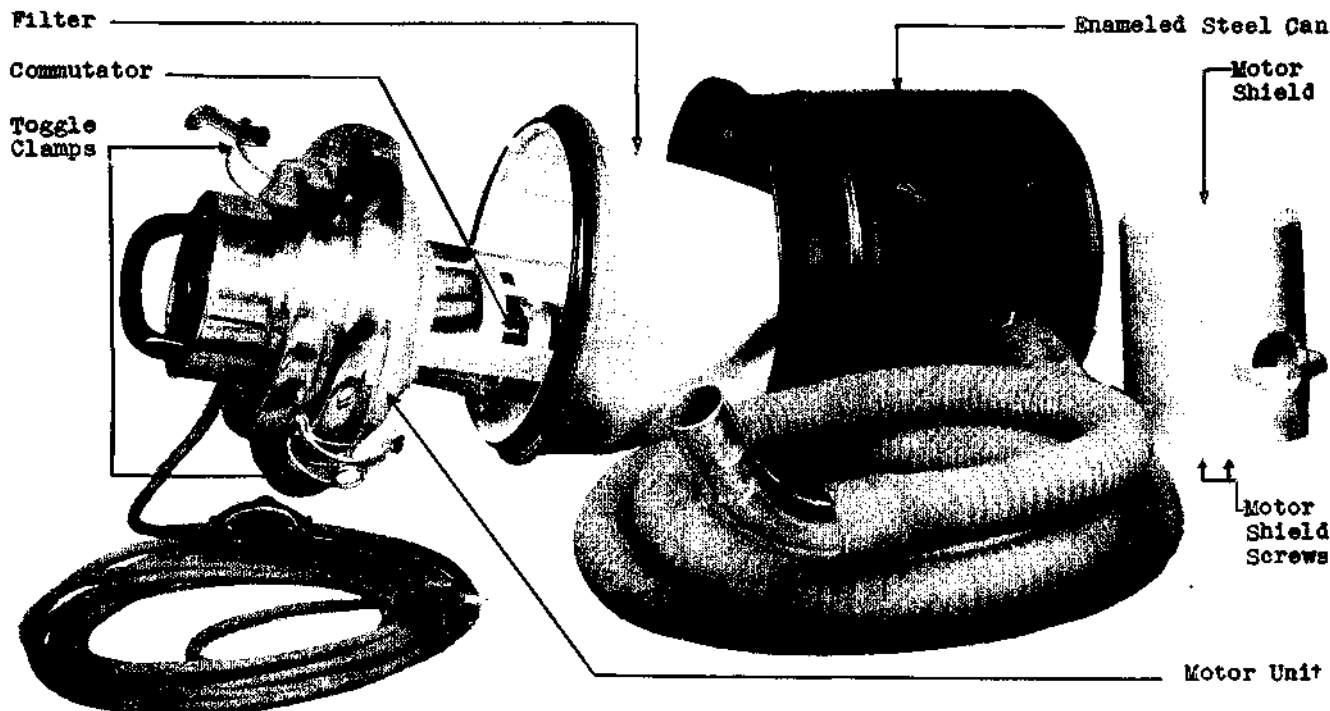

FIG. 1 - Vacuum Cleaner - Disassembled
(a) Enameled Steel Can. Fig. 1
(b) Filter. Fig. 1
* (c) Motor Commutator. Fig. 1
(a) Commutator Surface: The surface of the commutator, Fig. 1, shall be free from scoring, pitting or other deformation of the surface or structure save that caused by normal wear. Gauge by eye.
(1) Perform the following cleaning operations at a point remote from central office apparatus.
(2) Unfasten the toggle clamps, Fig. 2, and remove the motor unit and the filter, Fig. 1, from the enameled steel can.